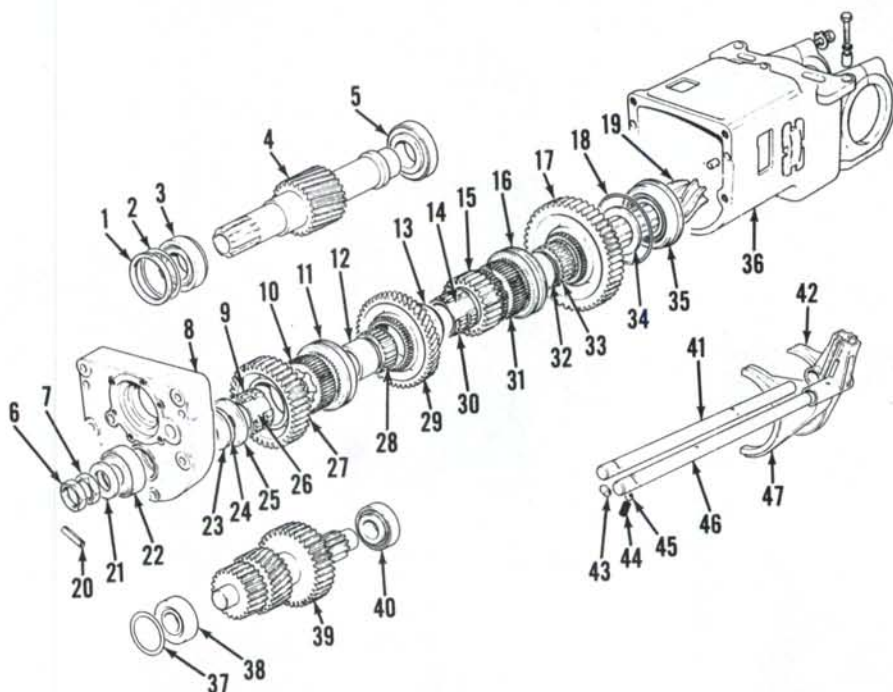

Fig. 207—Exploded view of power shift range transmission showing component parts and their relative positions.
Remove nuts from transmission studs, then separate power shift unit from range gearbox. Remove spacer and sprag clutch from end plate bearing retainer. Drive roll pin (20—Fig. 207) from pinion shaft (19). Remove locking nuts (6 and 7) noting that shaft has left-hand threads. Remove spacer (21) and bearing (22). Remove end cover mounting bolts, then lift end cover (8) from range housing (36). Remove thrust washer (23), shims (24), spacer (25), second gear (27), needle roller bearings (9) and race (26) from pinion shaft. Remove second/reverse shift rod and collar (11) as an assembly. Remove gear (10), bearing (28) and race (12), reverse gear (29), thrust washer (13), third gear (15), bearings (30) and race (14), first/third shift rail assembly with collar (16) and sliding collar inner gear (31). Withdraw input shaft assembly (4) and idler shaft assembly (39). Remove first gear (17), bearing (33) and race (32) and thrust washer (34).
269. REASSEMBLY. Inspect all gears, thrust washers and bearings for excessive wear or damage and renew as necessary. If renewal of input shaft (4—Fig. 207) or idler gear (39) or their bearings is required, shaft end play must be set as outlined in following paragraph before reassembling transmission. If renewal of pinion shaft (19) or rear bearing is necessary, pinion shaft protrusion must be set as outlined in paragraph 273 before proceeding with reassembly.
270. IDLER SHAFT AND INPUT SHAFT END PLAY. Heat bearings to 120°C (250°F) maximum before installing on the shafts. Install spacer (1—Fig. 207) and front bearing cups minus shims (2 and 37) into front end housing. Position idler shaft and input shaft assemblies into housing and install front housing. Remove the four housing mounting studs, if not already removed, and install four bolts in place of the studs. Tighten bolts to 95 N·m (70 ft.-lbs.) torque and rotate shafts to be sure bearings are seated.
271. PINION SHAFT ASSEMBLY. With pinion shaft protrusion set and pinion shaft installed in housing, reassemble range transmission as follows: Install thrust washer (34—Fig. 207) on pinion shaft with oil grooves facing away from rear bearing. Install first gear (17), bearing (33) and race (32). Position idler shaft and input shaft assemblies in housing. Position shift interlock plug (43) in housing bore so it is between shift rod holes in range housing. Install gear (31) on pinion
Install third gear (15—Fig. 207), bearings (30) and race (14). Install thrust washer (13) with oil grooves facing away from third gear. Install reverse gear (29), bearing (28) and race (12). Install sliding collar gear (10), sliding collar (11) and second/reverse shift rail assembly. Use special tool to depress detent ball and spring as shift rail is pushed into housing bore. Install second gear (27), bearing (9) and race (26). Install spacer (25) with larger outside diameter against second gear.